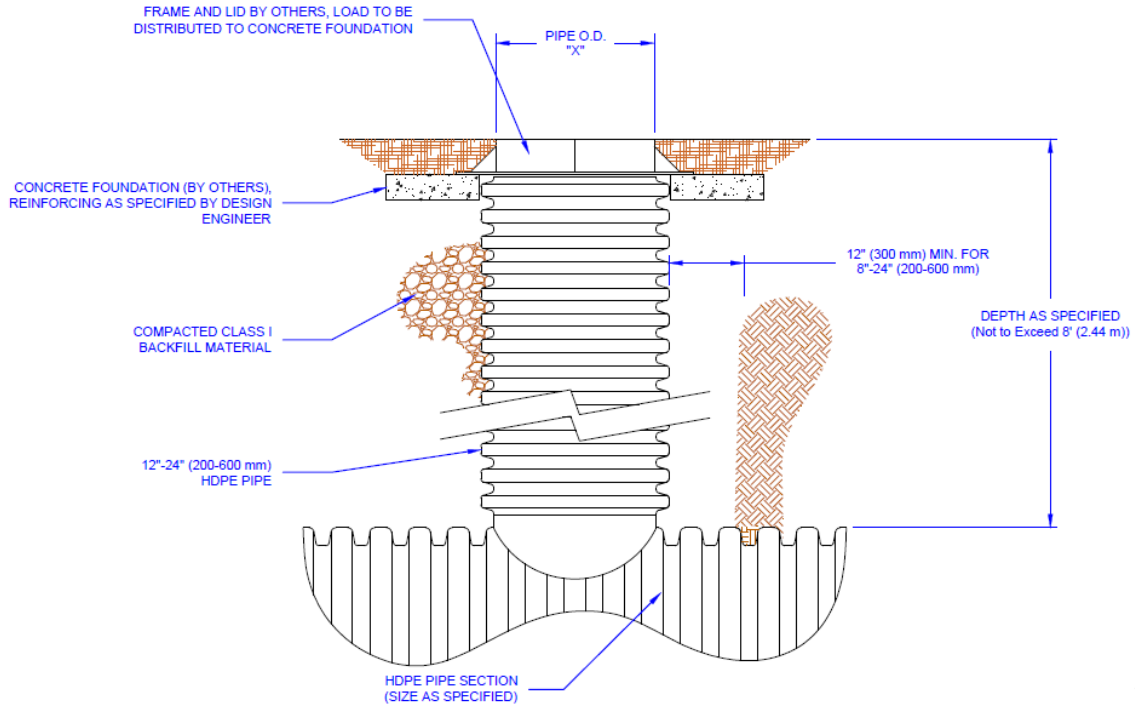

Figure 5: Typical HDPE Cleanout or Riser
- Cleanout stubs and access risers, shown in Figure 5, should be strategically placed throughout the system to allow for ease of maintenance and allow for manned entrance into the system. Cleanout stubs are typically located on the headers of the system and risers are located on the laterals.